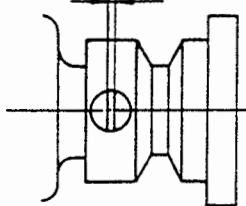

Fig. 5-36-2
- When installing the generator stator, be sure that its setscrews face just to the left side and just below. When fixing the handwheel, be sure that the setscrew No. 1 is located on the flat part of the main shaft (viewed from counterclock direction). At this time, adjust the clearance between the generator stator and the handwheel to  $1 \text{ mm} \pm 0.5 \text{ mm}$  ( $0.039" \pm 0.020"$ ). (Fig. 5-36-2)